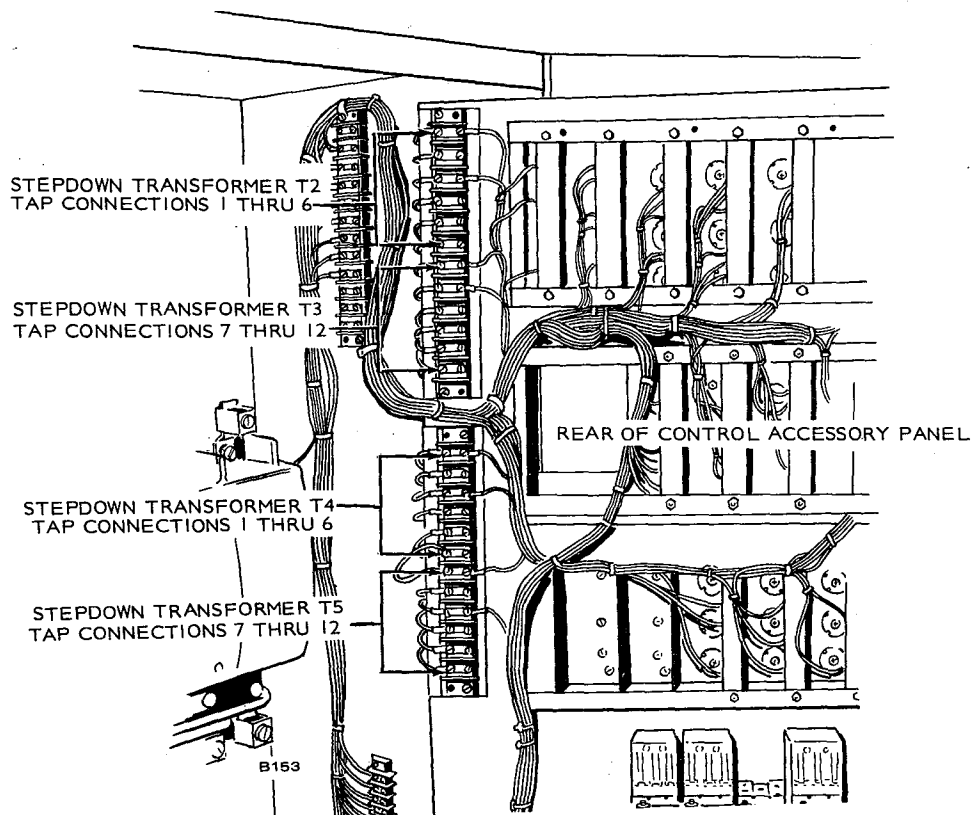

FIGURE 5. AC VOLTAGE CONNECTIONS FOR STEPDOWN TRANSFORMERS
6. Rewire the stepdown transformers T2, T3, T4, and T5 using the wiring diagram furnished with the control accessory panel. Change the wire lead connections on the right side (facing panel rear) of the terminal strip for the transformers. See Figure 5.